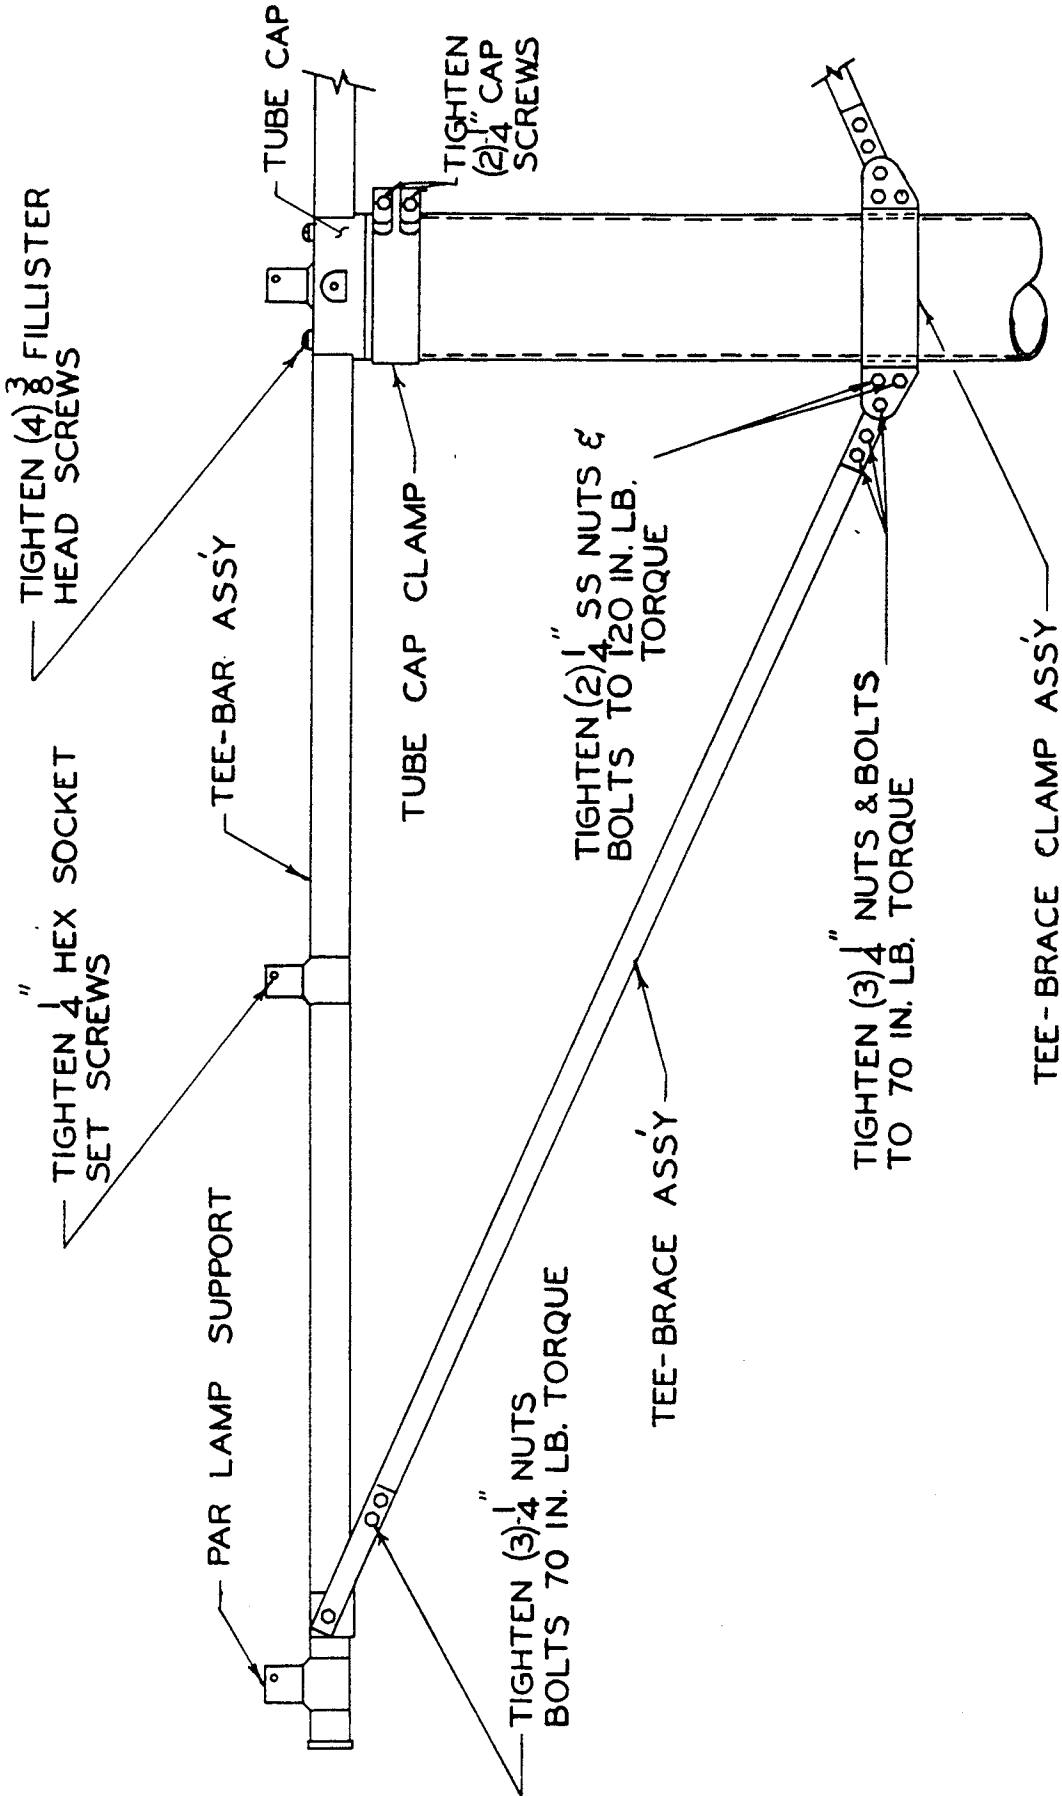

FIG. 6-11
LIR structures with Tee Bars: Using a torque wrench (120 in. lb. min. range), 7/16" socket (to fit torque wrench) and a 7/16" combination wrench tighten all 1/4" nuts and bolts on the Tee Bar, Tee Brace and Tee Brace Clamp. Torque 1/4" nuts and bolts to 70 or 120 in. lb. + 5 in. lb. - 0 in. lb. (See Fig. 6-11). Now tighten the (4) 3/8" fillister head screws on the top of the tube cap with a flat bladed screw driver (See Fig. 6-11). Check tightness of hex socket set screws in Par lamp supports with a 1/8" allen wrench.